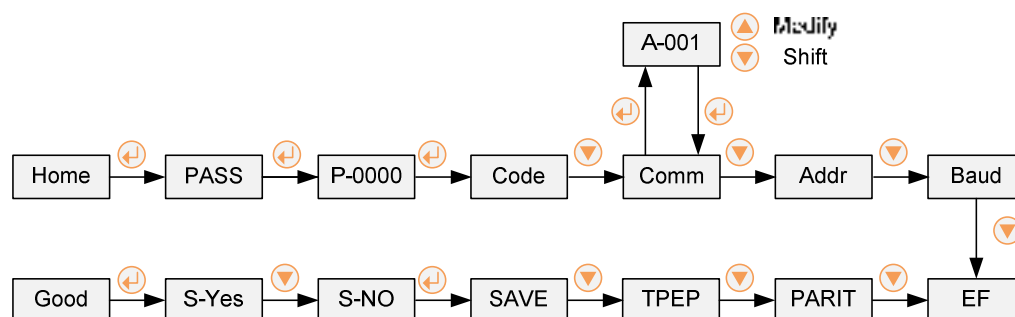

Figure3-43 The setting of the smart meter address
- The setting of the smart meter address is as shown in Figure3-43.